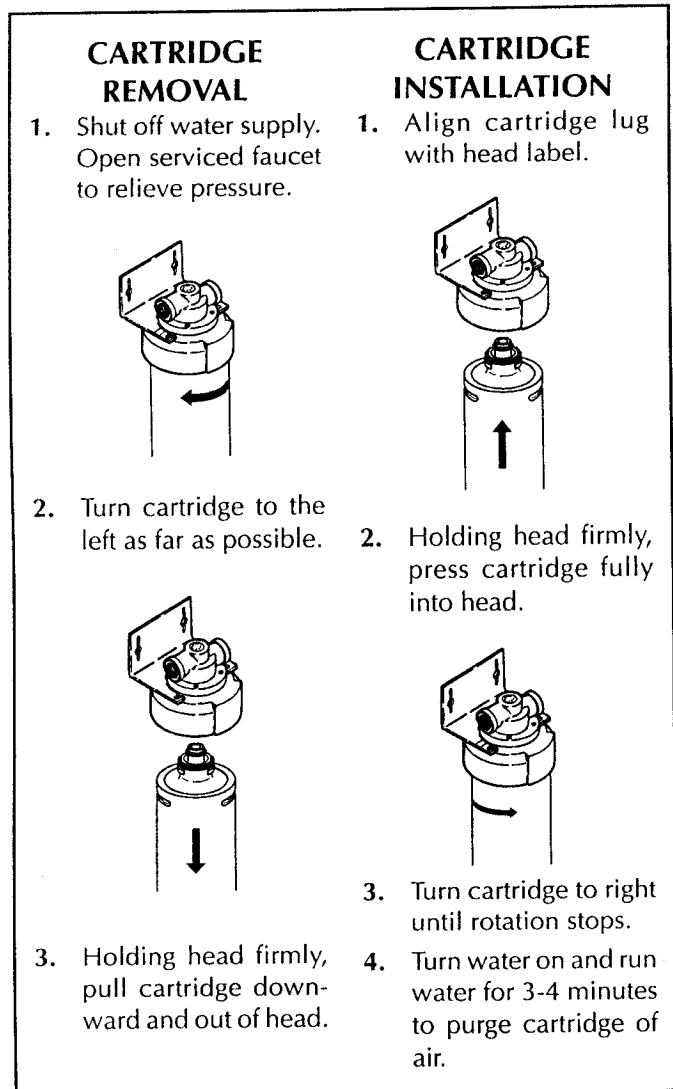

Figure 3
- Install the filter cartridge as detailed in **Figure 3**.
These drinking water systems must be maintained according to the manufacturer's instructions, including timely replacement of filter cartridges. Follow the guidelines below to determine when the filter cartridge must be replaced in each system. Refer to **Figure 3** for the service sequence.